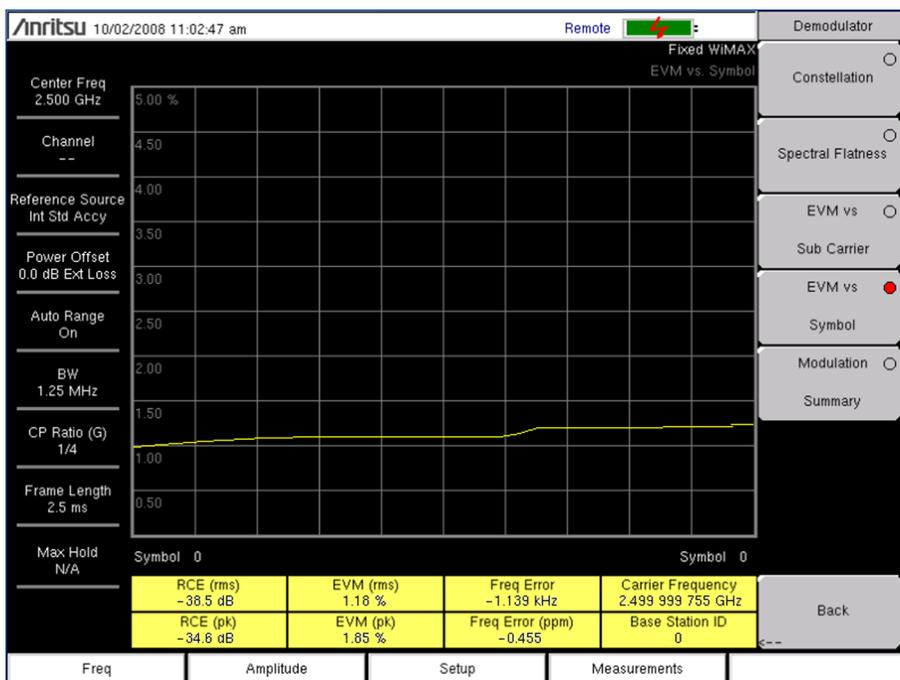

Figure 2-8. EVM Versus Symbol
4. Press the EVM vs Symbol submenu key to activate the measurement. The sample image in Figure 2-8 may differ from any image on your instrument.